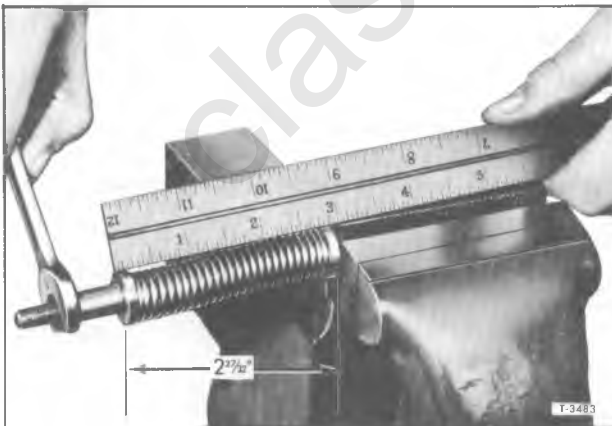

Figure 26—Adjusting Push Rod (Corporation Axle)
2. Tighten adjusting nut until dimension over washers at each end is 2-27/32" (fig. 26). Install and tighten lock nut, being careful not to change dimension.